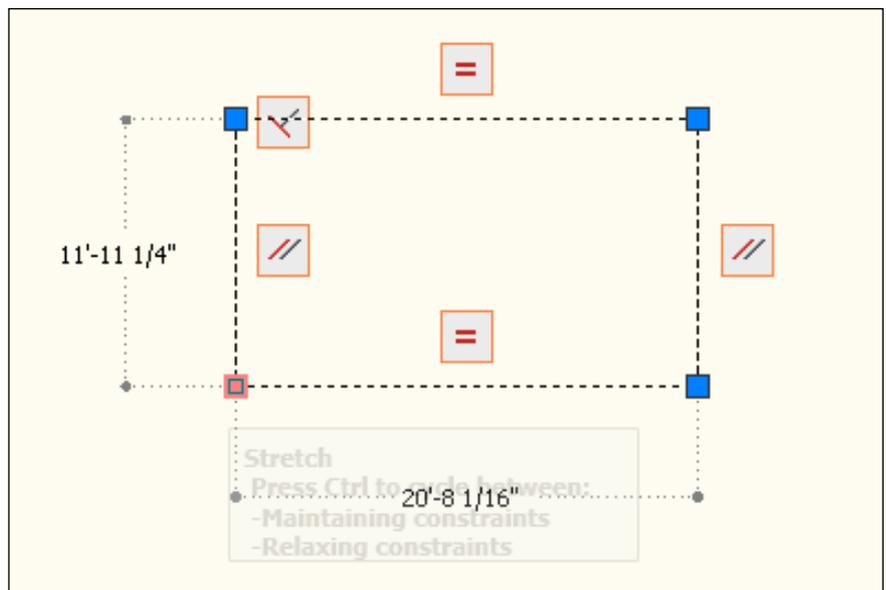

Figure 5: Relaxing constraints
2. Relax the constraints temporarily on selected objects to allow you to make the changes. With a grip selected or when you specify options during an editing command, use the Ctrl key to alternate between relaxing constraints and maintaining constraints. (See Figure 5.)